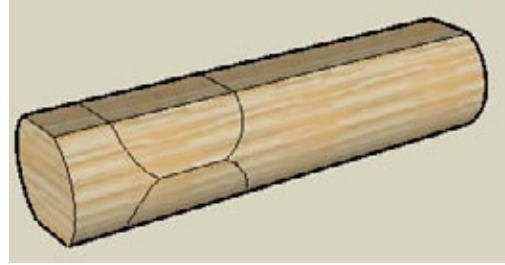

Figure 3-68
7. Erase the top and bottom logs, leaving only the one in the middle (Figure 3-68).